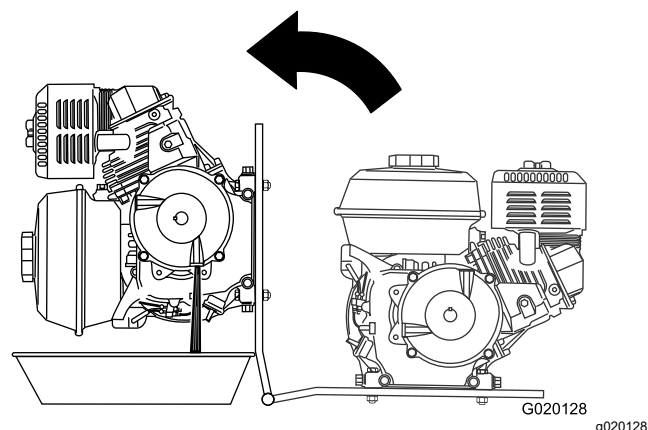

Figure 60
9. Rotate the engine on the hinge side of the engine deck, and drain the oil from the reduction case (Figure 60).